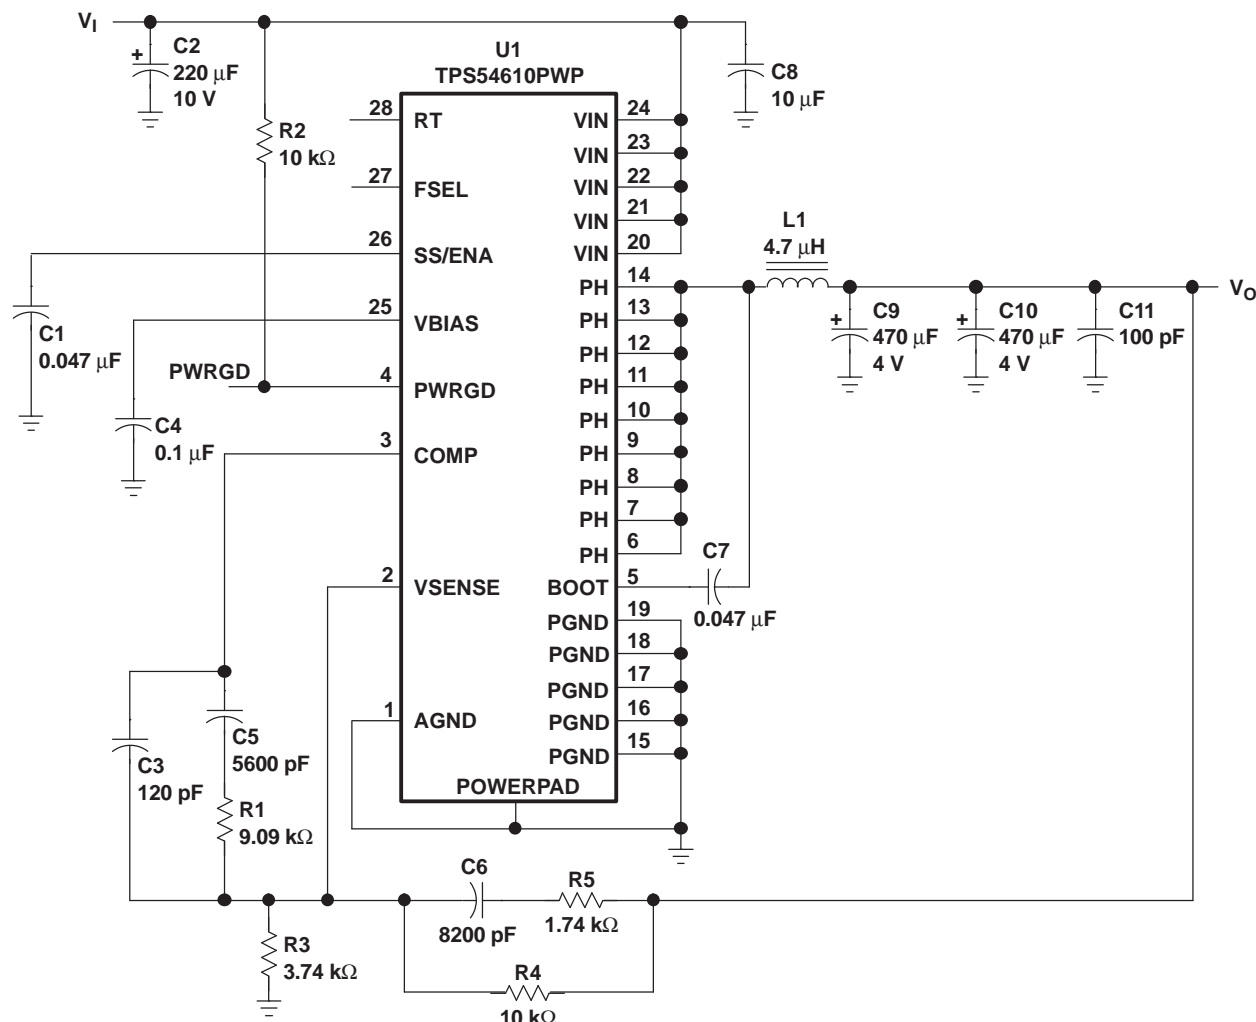

Figure 10. Application Circuit
(1) Specified by design
(2) Static resistive loads only
(3) Specified by the circuit used in Figure 10.
Figure 10 shows the schematic diagram for a typical TPS54610 application. The TPS54610 (U1) can provide greater than 6 A of output current at a nominal output voltage of 3.3 V. For proper thermal performance, the exposed thermal PowerPAD under the integrated circuit package must be soldered to the printed-circuit board.